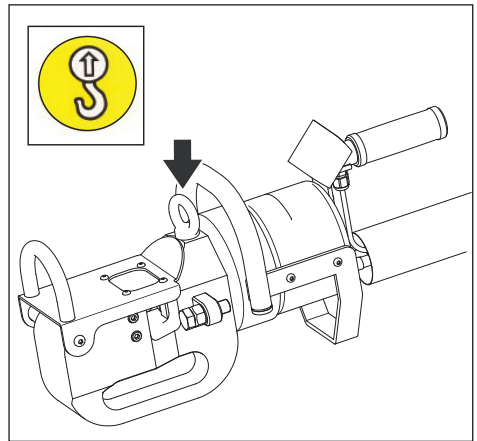

Figure 7, Cutter Lifting Location
- If it is necessary to move or transport the cutter, use only the supplied lifting eyebolt. See Figure 7. Use appropriately rated lifting equipment.